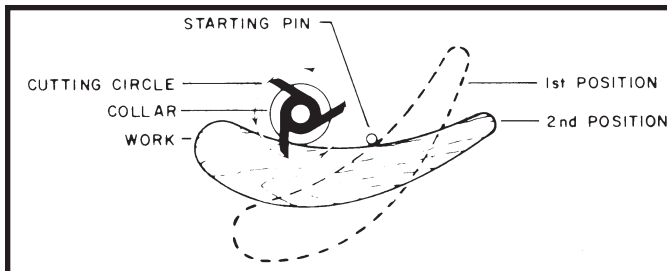
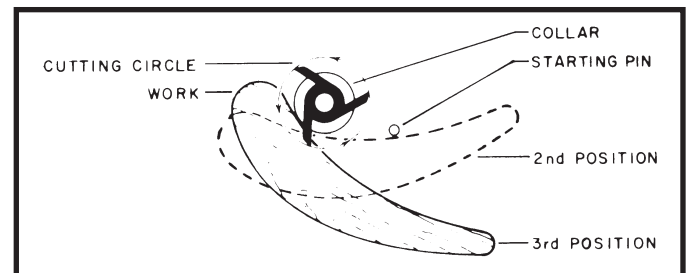

Fig. 35
Fig. 36
2. Place the work in the first position using the guide pin as a support (Fig. 35). Swing the work into the cutter as shown in the second position (Fig. 36). The work will be supported by the collar and starting pin (Fig. 36).
3. After the cut has started, swing the work free of the starting pin and let it ride only against the collar (third position, Fig. 36). **ALWAYS FEED THE WORKPIECE AGAINST THE ROTATION OF THE CUTTER.**